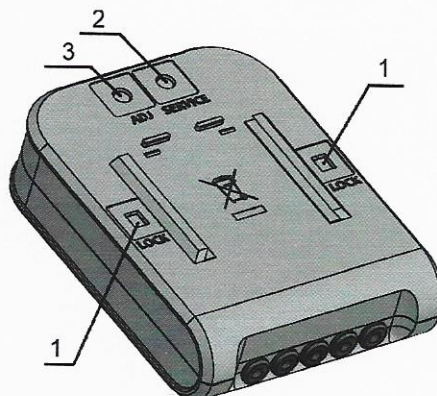

Fig.6. Sealing of the calculator of the thermal energy meter INVONIC 2 (2M)
The newly manufactured complete meter calculator shall not be subject to additional sealing. Access to the calculator cover release latch (Fig. 6, pos. 1), the parameter change and test mode activation contacts (Fig. 6, pos. 2) and adjustment data activation contacts (Fig. 6, pos. 3) is protected by easy break-out screens.
When the abovementioned casing screens are break-out (after opening the calculator casing, changing the meter parameters, adjusting the meter or activation the test mode), open slots are sealed with metrological seal-stickers (Fig. 6, pos. 1 and pos. 3) and with the protective seal-sticker of heat supplier (Fig 6, pos. 2).
Remove the screen „SERVICE“ on the back of the calculator or, if the screen has already broken down, a protective seal-sticker is removed (Fig. 6, pos. 2 of this appendix), or, for a combined device, opens the calculator box. By short-circuiting the contacts „SERVICE“, the SERVICE mode is activated, symbol „<->“ and sign „TEST“ are displayed on the LCD.